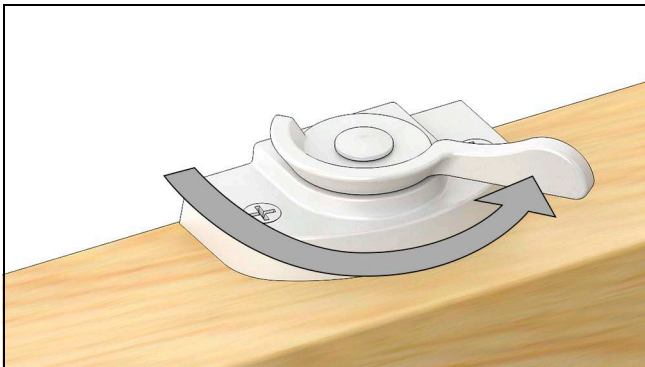

Figure 80
1. Rotate lock handle to 135° position to unlock. See Figure 80.